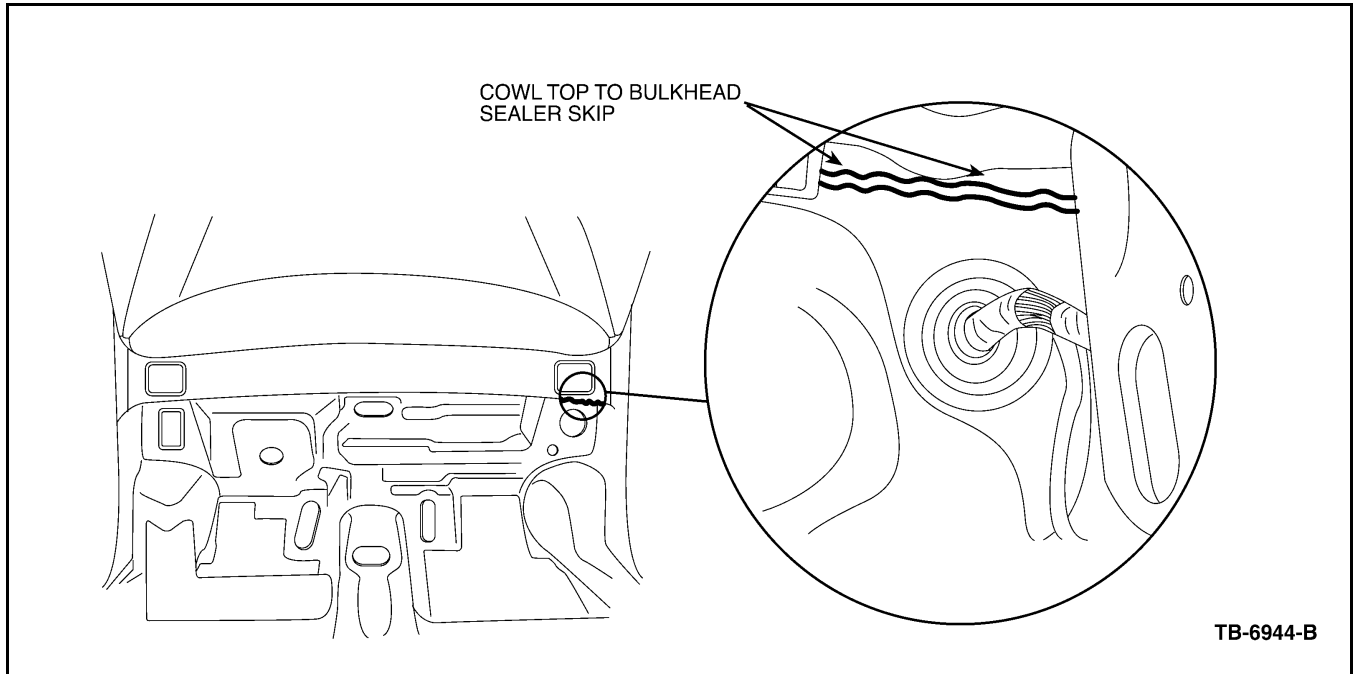

Figure 8 - Article 05-13-3
5. Inspect for sealer skips between cowl top to bulkhead, just above main harness grommet (Figure 8).